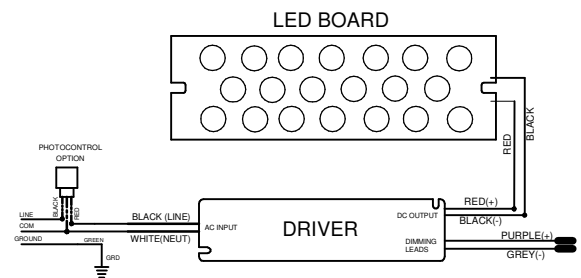

Fig 4a: Wiring Diagram for FLL Flood
- Connect the Photocontrol as shown in Fig. 4a for FLL or Fig 4b for FXL.